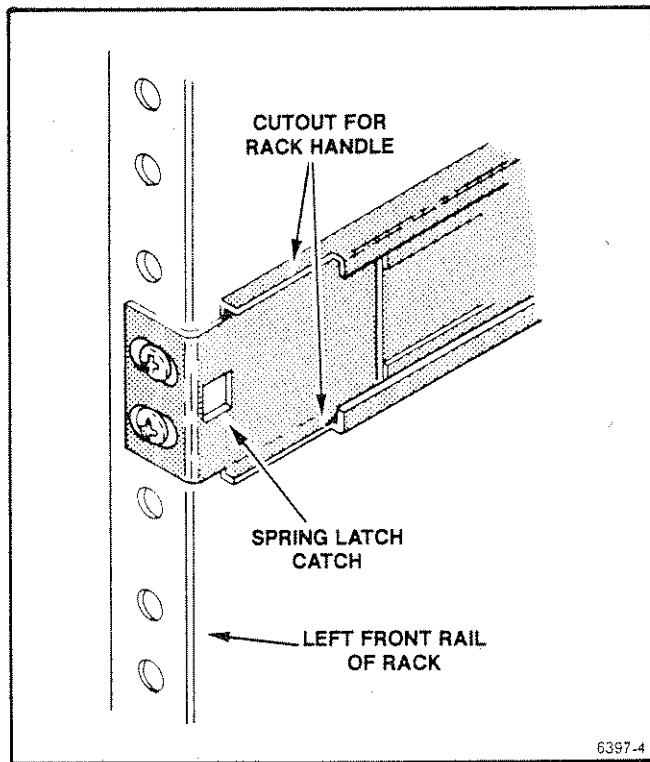

Fig. 2-3. Spring latch catch and cutout for rack handle.
*Because of the spring-latch feature and rack handle requirements, the rackmountable RTD 710A cannot be installed in rack slides for other types of instruments. The slide tracks supplied with the rackmountable RTD 710A are equipped to accommodate the spring latches and rack handles (Fig. 2-3).*